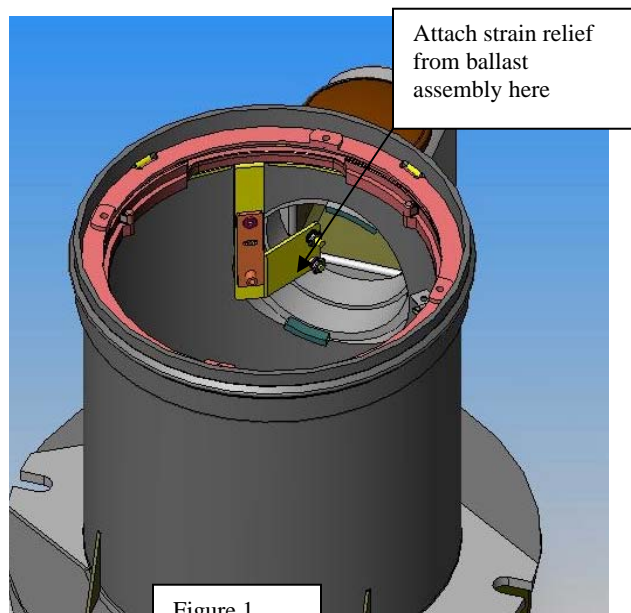

Figure 1
- 4) There is a plastic strain relief attached to free wires coming off ballast assembly. Attach strain relief to housing by removing nut from stud, attaching strain relief, and reattaching nut. See Figure 1.